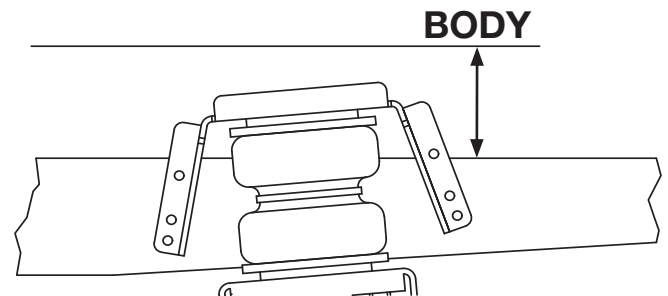

Fig. 3
2. This kit also requires that the body above the axle be at least 2.25" (57mm) in height above the frame for the kit's upper bracket to mount correctly. If this requirement can't be met, then the body must be flush with or inside the frame's web for the bracket to mount (Fig. 3).